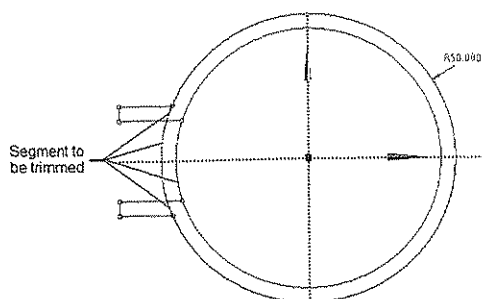
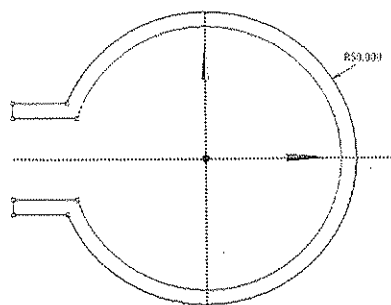

Figure 3-97 Segments of the circle to be trimmed
Figure 3-98 Sketch after trimming the entities
33. Select the **Ignore axis** check box displayed on the right of the **Trim** tool and click on the segments one by one, marked in Figure 3-97; the selected segments is trimmed and you get the sketch shown in Figure 3-98.